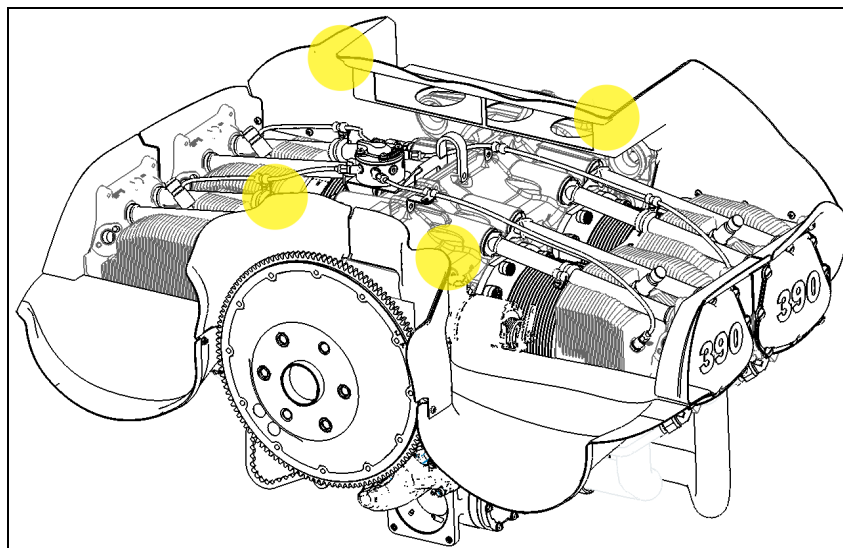

Figure 4 - Possible Baffle Zones in Contact with Upper Cowl
6. Using upper and lower cowling marked zones as a guide, locate corresponding possible causes of wear on **composite** baffle components. See possible zones highlighted in Figure 4. Zones where baffle composite is in occasional contact with the engine cowling may be trimmed by filing, sanding, or using a rotary tool. Edges of baffles may be trimmed as long as 2D edge distance to all fasteners (1/4" from center of hole to nearest edge) is maintained and a minimum of 3/8" overlap is retained between composite engine baffles and the attached baffle seal. Excessive trimming will result in baffle seal leaks that will reduce powerplant cooling performance.